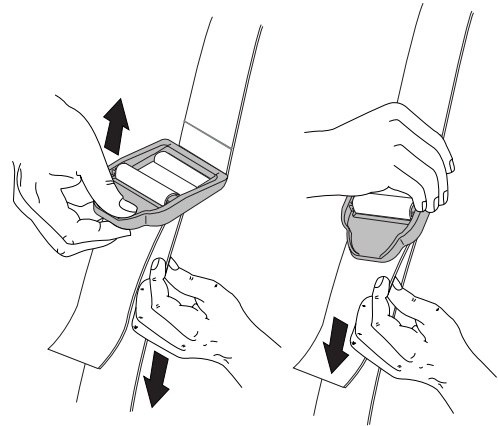

Fig. 8
4. While standing in the operating position, adjust the length to fit the operator's size. Pull the tab to lengthen, pull the strap to shorten (Fig 8).